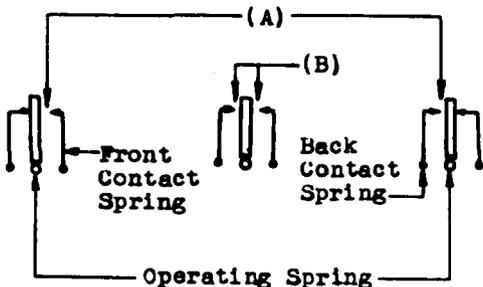

Fig. 19 - Contact Separation - Transfer (Break-Make) Spring Combination
(b) Transfer, (Break-Make), Spring Combinations which have a Neutral Interval - Fig. 19 (B): With the operating bar in the neutral position the separation at the closest point between the contacts of the operating spring and the back and front contact springs shall be: